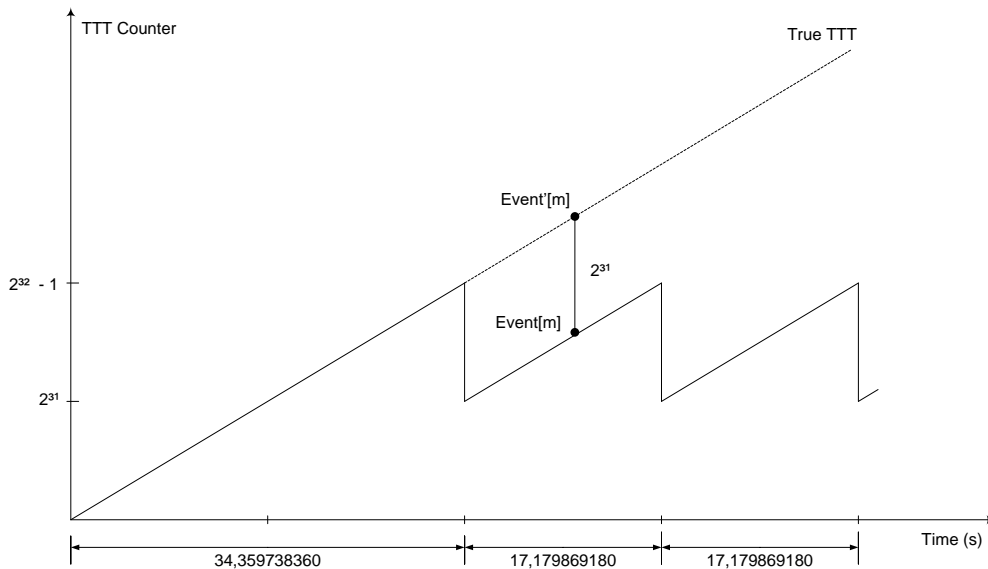
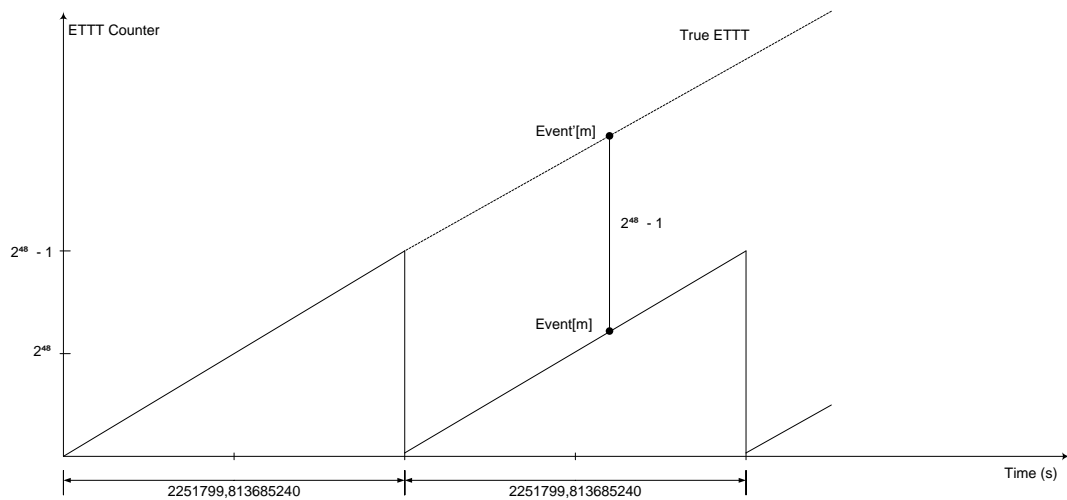

Fig. 10.8: TTT description
Fig. 10.9: ETTT description
- TRIGGER TIME TAG** (bit[31:0] of 4th header word) is the Trigger Time Tag information (TTT), which is the trigger time reference (see Sec. **Acquisition Triggering: Samples and Events**). The word is composed of the value of the 31-bit counter of the Trigger Time Tag (bit[30:0]) plus the overflow bit (bit[31]) indicating that the timestamp counter has overflowed at least once (**Fig. 10.8**). If the ETTT option is enabled, then this field becomes the 32 less significant bits of the 48-bit Extended Trigger Time Tag information in addition to the 16 bits (MSB) of the TRG OPTIONS field (2nd event word). Note that, in the ETTT case, the overflow bit is no more provided (**Fig. 10.9**). The trigger time tag is reset either after each start of acquisition or via front panel signal on GPI connector and increments at the frequency of 125 MHz (8ns). The trigger time tag value is then read at half this frequency (62.5 MHz), so the Trigger Time Tag specifications result in 16 ns resolution and 17 s range (i.e. $8 \text{ ns} \cdot (2^{31}-1)$), which can be extended to 625 h (i.e. $8 \text{ ns} \cdot (2^{48}-1)$) by the Extended Trigger Time Tag option.